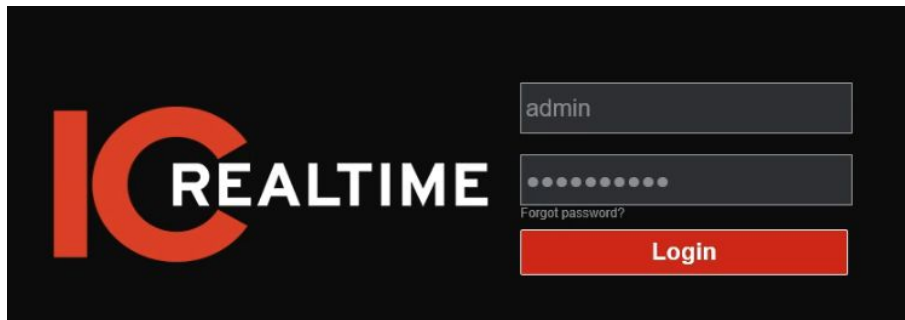

Figure 4-1
**Step 1** Login to the ANPR Camera via web browser and initialize the camera if you have not done so yet. (The camera is set to DHCP by default. If the camera is not plugged into a network with a DHCP pool, the IP will be 192.168.1.108 )See Figure 4-1.